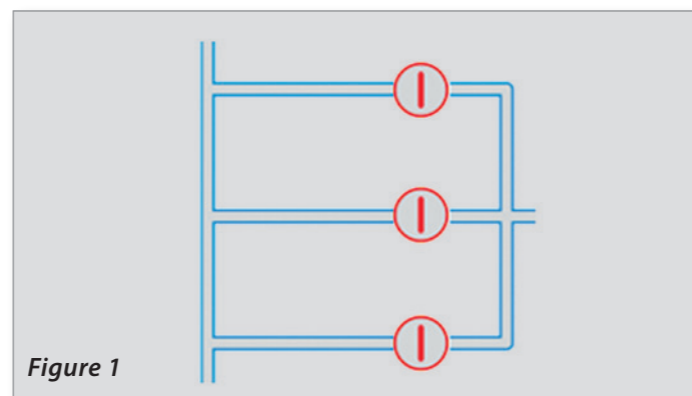

Figure 1
- **Three step evacuation routine** for safe sample handling including very fine particles and highly porous materials (Figure 1).